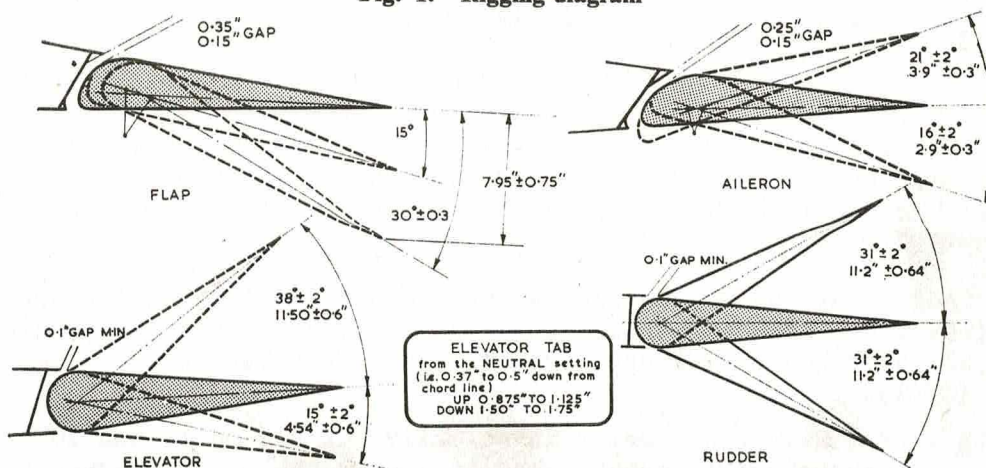
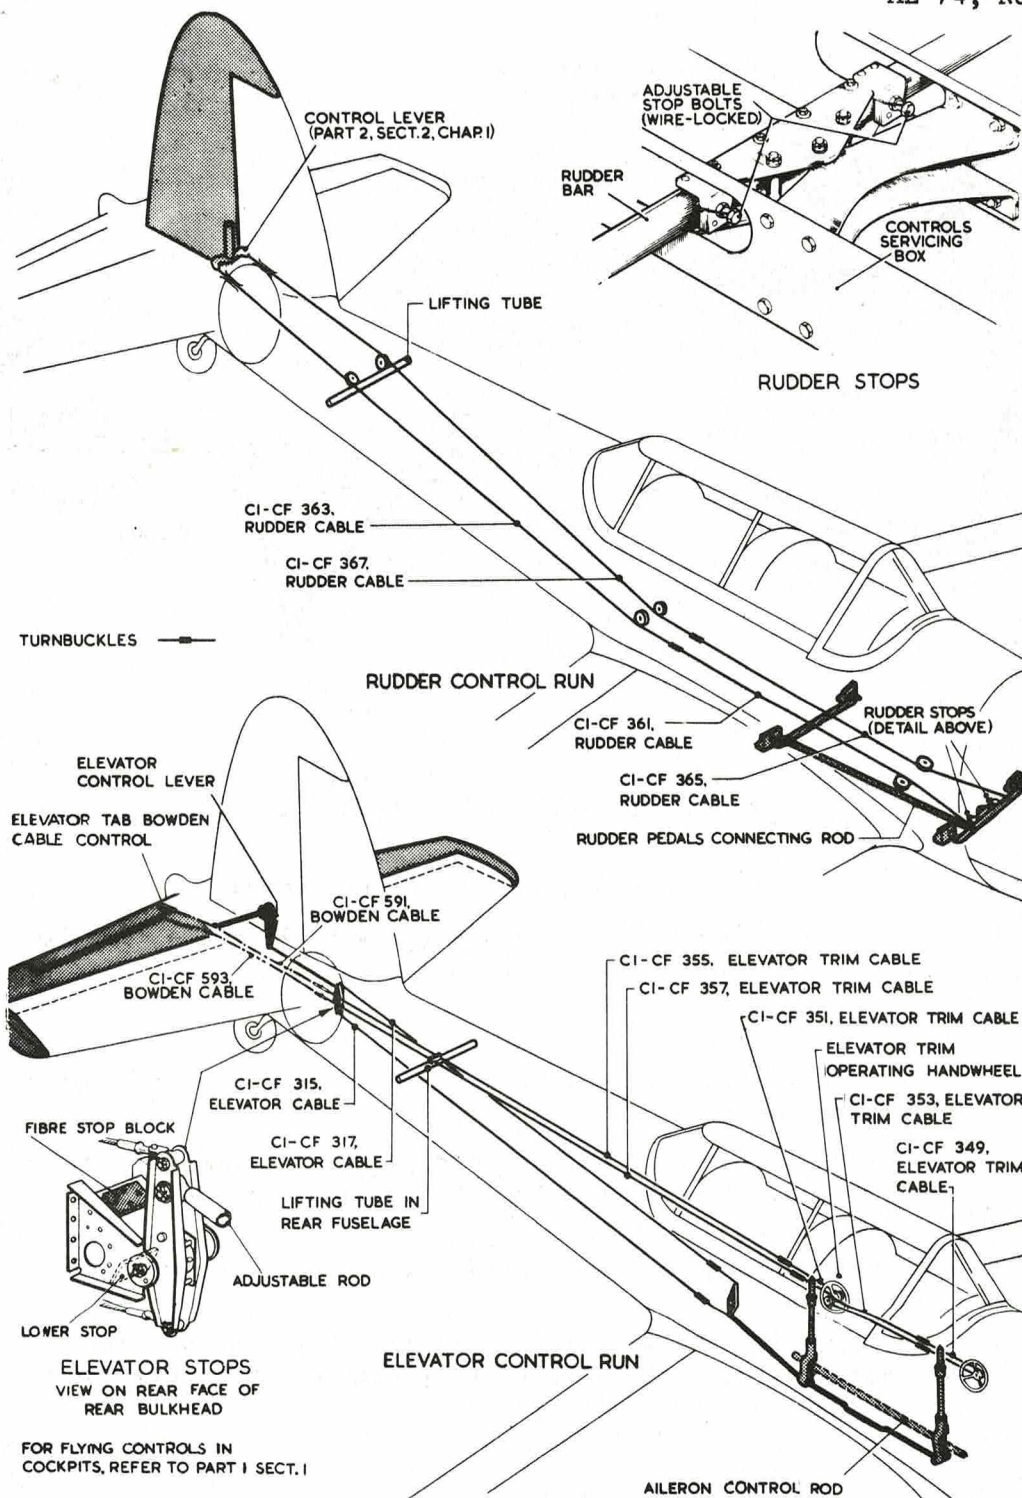

Fig. 2. Control settings
Fig.3 Rudder and elevator control runs
5. The cockpit-controlled movable surfaces comprise an aileron and flap on each wing unit, two elevators, a single rudder, and one trim tab fitted to the starboard elevator. Fixed metal tabs are incorporated on the starboard aileron, and the rudder for adjustment, if necessary, on the ground. The control surface movements are shown on fig.2 and the method of adjusting the various control settings is shown on fig.3, 4 and 5, and accompanying texts.
KEY TO FIG.2 (CONTROL SETTINGS)
The movement is measured at the base. The stops are mounted on the front rudder bar (fig.3).
The stops are on the lever bracket on the rear bulhead (fig.3).
KEY TO FIG.3 (RUDDER AND ELEVATOR CONTROL RUNS)
4. Check the surface movement with the figures given in fig.2, adjusting, if necessary, by the stops.
3. Move elevators to the maximum up position (fig.2). Adjust the rear connecting rod to bring the operating lever (Fig.3) into contact with the up stop.
6. Remove the locking gear and again check the surface movement with the figures given in fig.2. Ensure that the control stick has sufficient clearance at the extremes of travel.
Elevator trim tab (fig.3)
5. Remove the locking gear and check the surface movements against the figures given in fig.2, adjusting if necessary, by the stops. Using soft-iron locking wire across the top of the rock-shaft, lock the ends of the stop bolts together.
- (a) The gap between the leading edge of the aileron and the shroud on the wing must not exceed 0.25 in. or be less than 0.15 in. (fig.2).
4. Adjust the cables at the turnbuckles (8) so that the locking pawl (6), on the front hand lever (5), enters the up lock cleanly with the cables moderately tight, i.e., so that the cables do not pull against the spring (4) and move the flap.
5. Check the down movement of the flaps with the figures given in fig.2.
6. Adjust the turnbuckle (7) on the pawl cable which interconnects the front and rear flap levers in the cockpit.
7. Lock the eyebolt (1) on the control arm (9) with the locknut (2), ensuring that the screwed end extends beyond the inspection hole in the arm.
(1) The gap, between the leading edge of the flaps and the shroud on the wing, must not exceed 0.35 in. or be less than 0.15 in. (fig.2).
(2) A nominal clearance of 0.1 in. must be maintained between each flap and the adjacent wing root, and between each flap and aileron. A nominal clearance of 0.05 in. must be maintained between the flap outboard hinge and the aileron pivot bolt.
(3) The dismantling and assembling of the flap mechanism is described and illustrated in Part 2, Sect.2, Chap.1.
| 6 LEVER ON ELEVATOR TORQUE TURE ATTACHED TO CONNECTING ROD (3) ● | 14 FLAP CONTROL LAYSHAFT BALL RACES AT EACH END ● | 17 ALL PULLEYS IN RUDDER CONTROL RUNS (fig. 3) ○ |